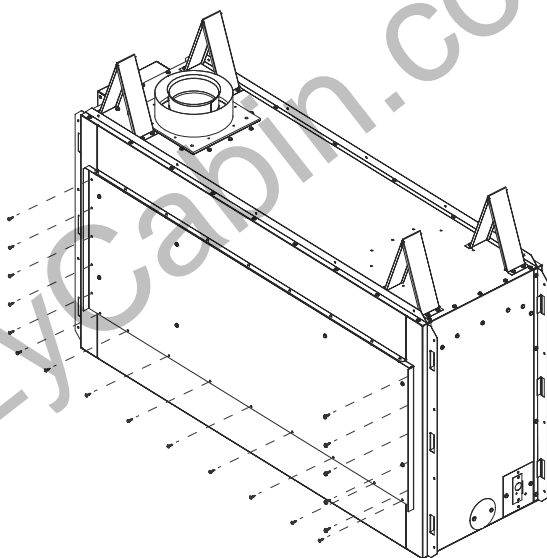

Figure 26 - Installing Rear Panel for Regular Applications
1. Using self-tapping screws provided and holes on rear panel as a guide, screw the rear panel to the fireplace as shown in Figure 26.